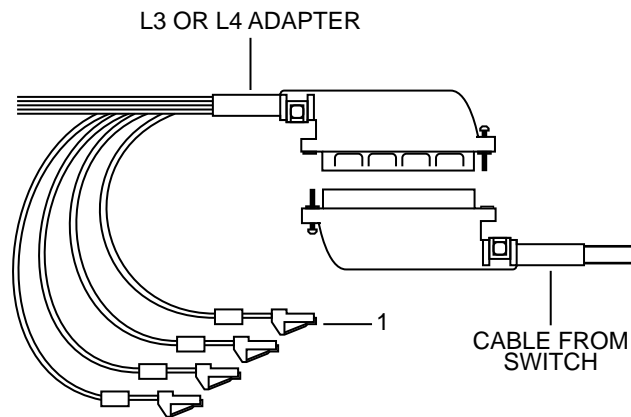

FIGURE 8-20. Connecting Each Numbered Plug on the L3 and L4 Adapter
10. If you are using an L3 or L4 adapter to connect the modules to the digital lines, plug the adapter into the 25-pair cable coming from the switch. See Figure 8-20. (This cable should be wired according to Table 8A or 8B, shown in this section, as applicable.)
Note: Connect each numbered plug (such as “1” on Figure 8-20) on the L3 and L4 adapter to the corresponding data module in the rack (the slots in the rack are numbered).